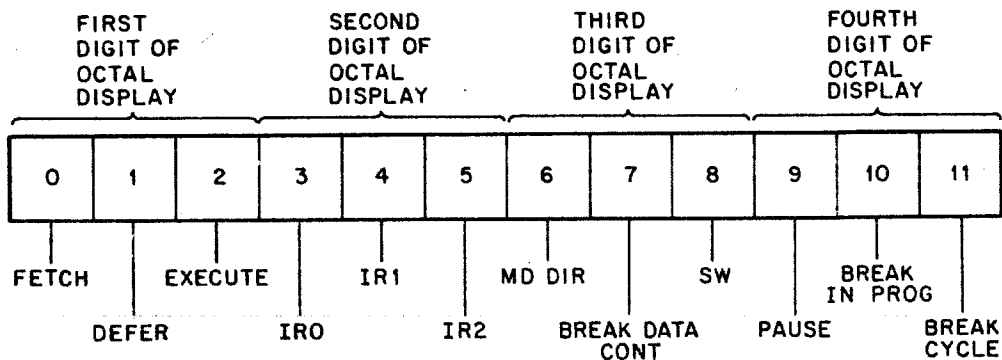

Figure 6-4 Major States Register
| STATE (5)            | <p>indicator to the left of the key pad will also light.</p> <p>When key pad switch STATE and then DISP are depressed, the condition of the major states, 3 bits of the instruction register (IRO-2), and 6 major Omnibus signals are displayed in the 4 character octal readout (Figure 6-4). The STATE indicator to the left of the key pad will also light. The octal readout must be decoded to determine if the individual bits are in a set or cleared condition (a logical one or a logical zero).</p> |